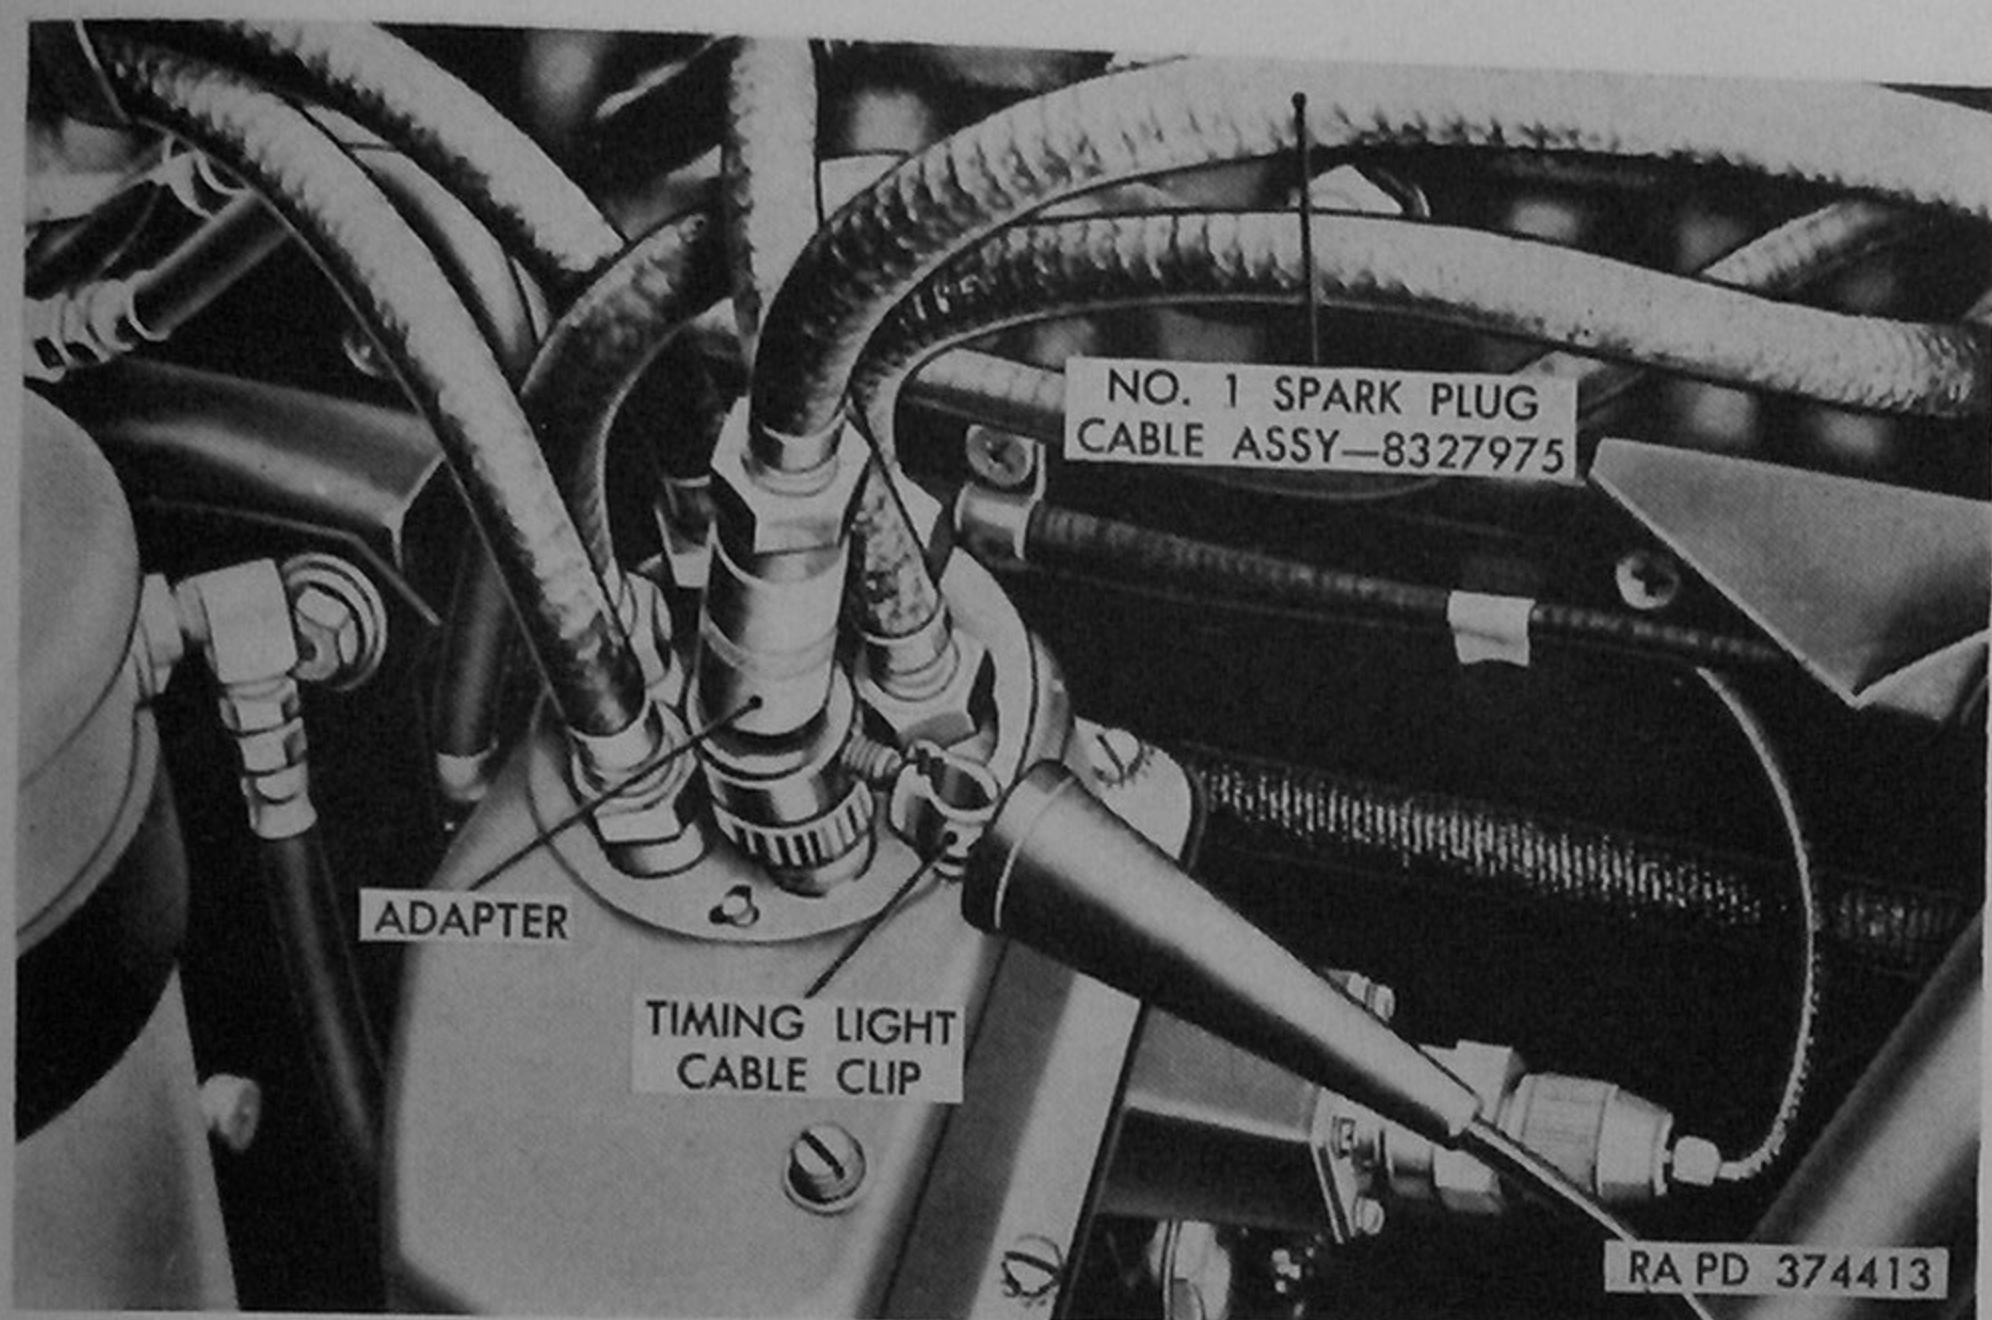

Figure 184. Ignition timing light adapter installed.
- (2) When preparing engine assembly 7411599 for run-in, disconnect transmission water outlet front line at connection at right front of engine, then with a temporary tube, connect air compressor water outlet hose to transmission water outlet line connection at engine. Also connect engine wiring harness connector to test stand wiring connectors.
- (3) Connect fuel supply line to carburetor.
- (4) Remove screw in distributor cap and install tachometer adapter. Connect adapter to electric tachometer.
- (5) Disconnect No. 1 spark plug cable from distributor cover, using wrench 7950895. Thread timing light adapter onto distributor cover; then connect No. 1 spark plug cable to adapter (fig. 184).